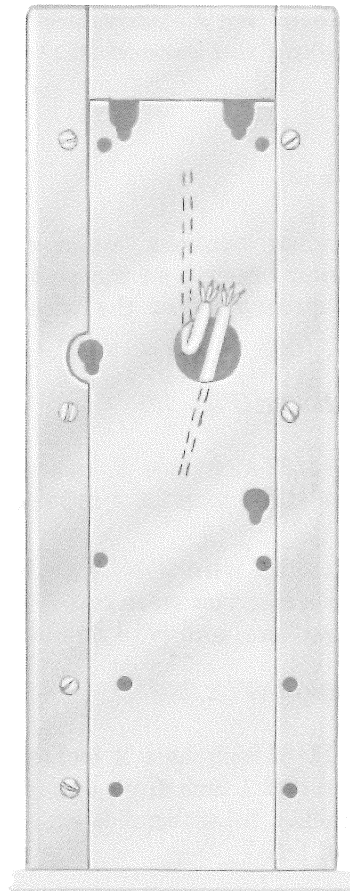

Fig. 21—Station Connections
3.12 Station connection wires are furnished as shown in Fig. 21. Complete connections